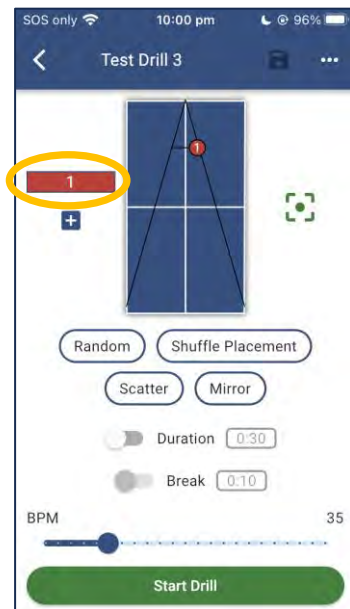

Figure 3-9
2. From the list of Drills, select **Test Drill 3** (Figure 3-9).